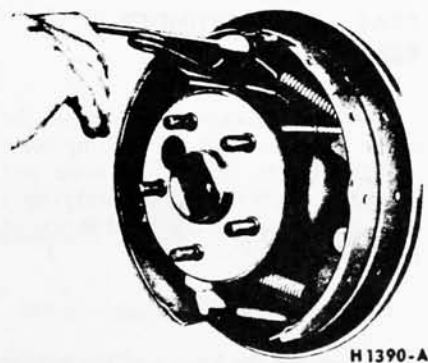

FIG. 13—Removing Retracting Spring
1. Remove the wheel and the brake drum and install a clamp over the ends of the brake cylinder as shown in Fig. 13.